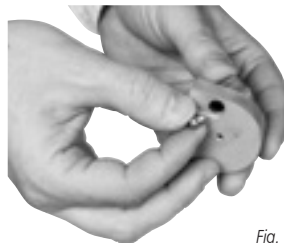

Fig. 5
3. Spin the aluminum side counter-clockwise to release the cover from the catch point. Then insert the pellet in backwards (skirt first) into the first location. (Fig. 5)